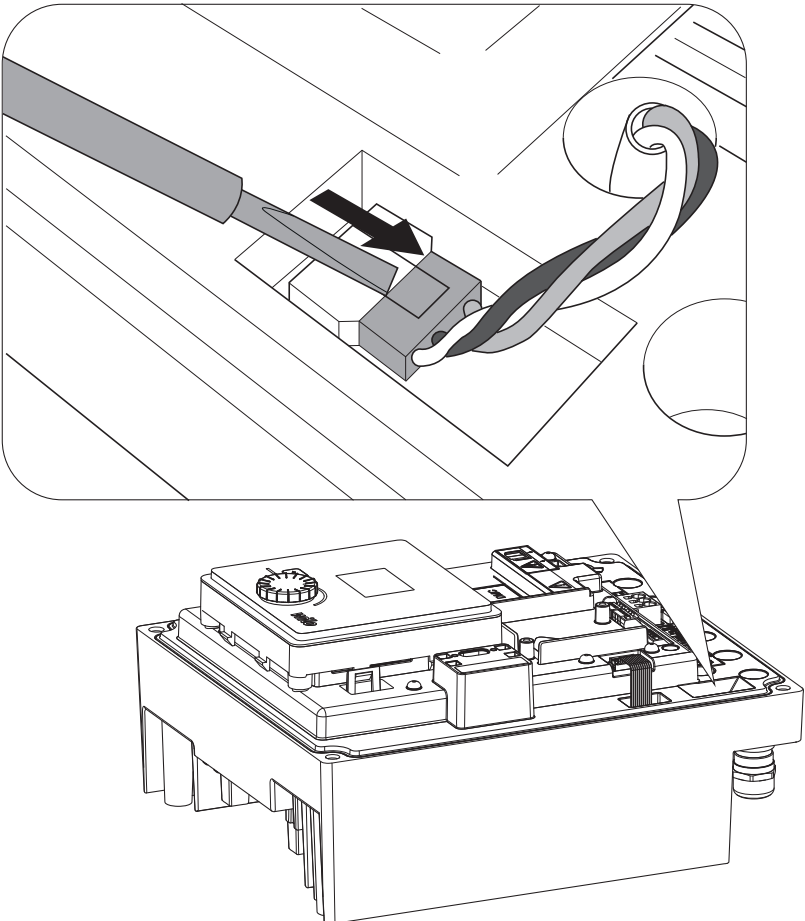

Fig. 46: Detach the module fan connection cable
- Remove the connection cable of the module fan. (Fig. 46).